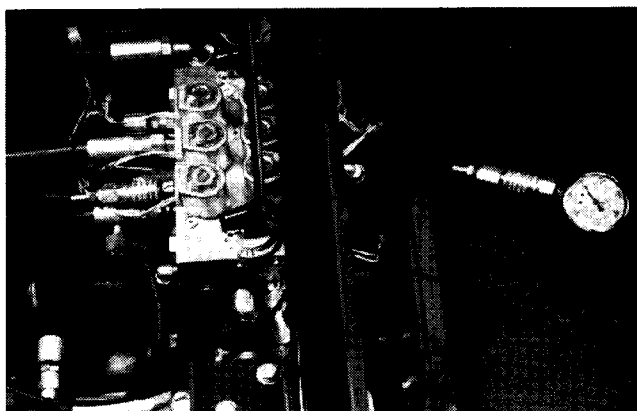

Figure 19
5. Install a 5000 PSI gauge with extension hose onto quick disconnect fitting in port G1. Put gauge and hose through opening in front of hydraulic valve block as shown, then lower the seat (Fig. 19).